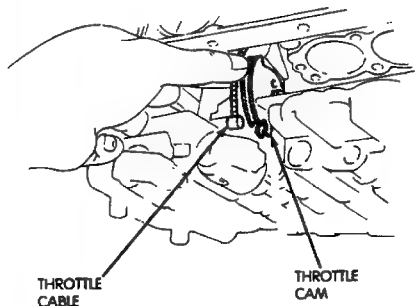

Fig. 13 Removing/Installing Throttle Cable
- (4) Remove valve body oil tubes (Fig. 13). Carefully pry tubes out of valve body with screwdriver.
- (5) Disconnect throttle cable from throttle cam (Fig. 13).
- (1) Connect cable to throttle cam (Fig. 13).